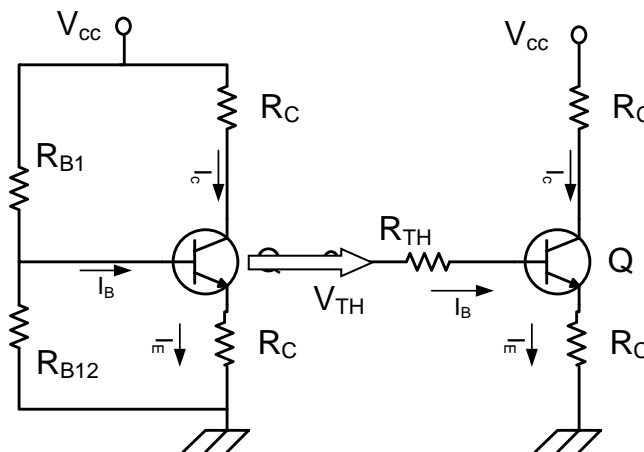

Fig 1: Biasing Circuit
3. Construct the fixed bias circuit with transistors as shown in fig. 1(a).
7. Construct the self bias circuit shown in fig. 1 (b) and repeat step 4, 5, 6.
| Fig. 1 (a) | | | | | | |
| Fig. 1 (b) | | | | | | |
2. Compare the circuits of Fig. 1(a), 1(b) and 2, with respect to stability against variation in β .